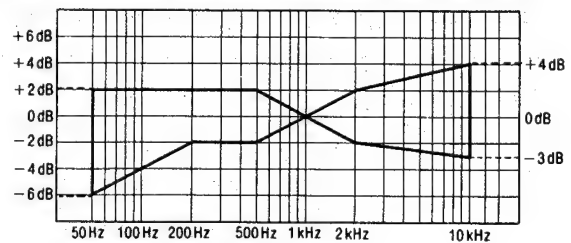

Fig. 8
5. Playback the recorded signal and assure that it is within the range shown in Fig. 8 in comparison to the reference frequency (1 kHz).